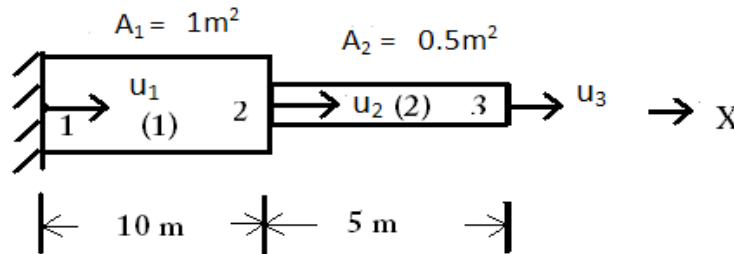

fig.7.
- (b) Evaluate the eigen values and frequencies for the stepped bar shown in fig.7. (16)